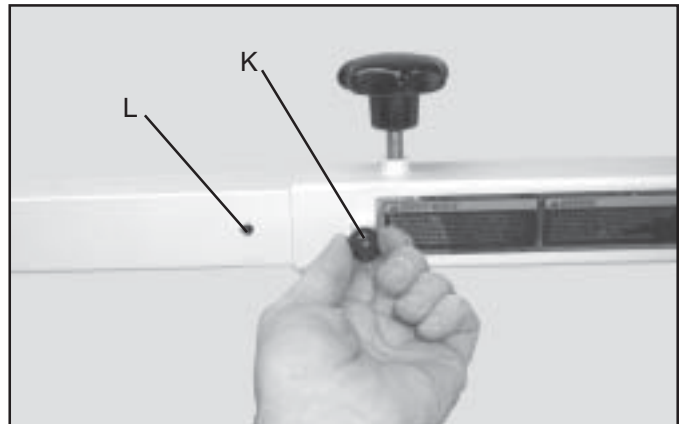

Fig. 17
16. Pull stop pin (K) Fig. 17, to allow the T-Arm to slide past stop pin indexing hole (L).